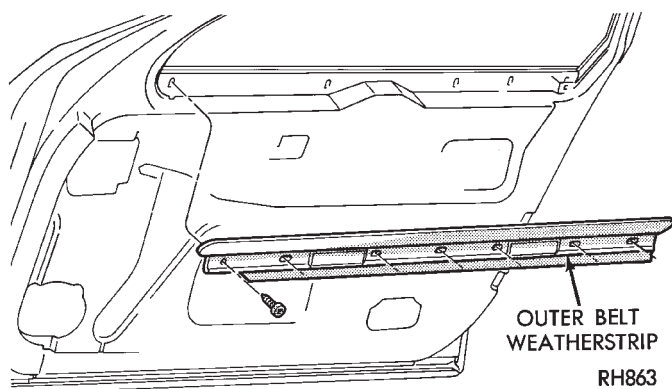

Fig. 22 Outer Belt Weatherstrip
- (5) Remove screws holding door glass opening moulding and belt weatherstrip to door belt flange (Fig. 22).
- (6) Remove the belt weatherstrip.
- (7) Remove window opening moulding.